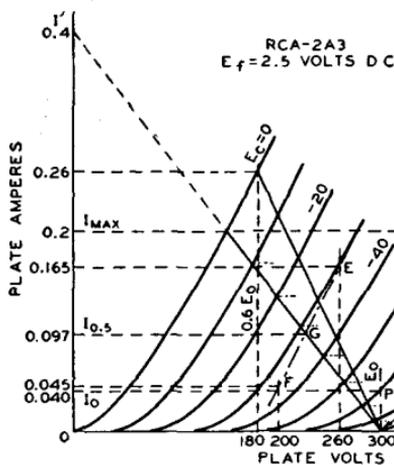
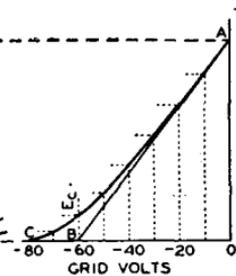

Fig. 24
Fig. 25
In class AB1 push-pull amplifier service using triodes, the operating conditions may be determined graphically by means of the plate family if  $E_0$ , the desired operating plate voltage, is given. In this service, the dynamic load line does not pass through the operating point P as in the case of the single-tube amplifier, but through the point D in Fig. 24. Its position is not affected by the operating grid bias provided the
In general, for any load line through point D, Fig. 24, the plate-to-plate load
**Example:** Fig. 24 illustrates the application of this method to a pair of 2A3's operated at  $E_o=300$  volts. Each tube has a plate-dissipation rating of 15 watts. The method is to erect a vertical line at  $0.6E_o$ , or at 180 volts, which intersects the  $E_c=0$  curve at the point  $I_{max}=0.26$  ampere. Using the simplified formulas, we obtain
The operating bias and the zero-signal plate current may now be found by use of a curve which is derived from the plate family and the load line. Fig. 25 is a curve of instantaneous values of plate current and dc grid-bias voltages taken from Fig. 24. Values of grid bias are read from each of the grid-bias curves of Fig. 24 along the load line and are transferred to Fig. 25 to produce the curved line from A to C. A tangent to this curve, starting at A, is drawn to intersect the grid-voltage abscissa. The point of intersection, B, is the operating grid bias for fixed-bias operation. In the example, the bias is -60 volts. Refer back to the plate family at the operating conditions of plate volts=300 and grid bias= -60 volts; the zero-signal plate current per tube is seen to be 0.04 ampere.
As in the case of the push-pull class A amplifier, the second-harmonic distortion in a class AB1 amplifier using triodes is very small and is largely canceled by virtue of the push-pull connection. Third-harmonic distortion, however, which may be larger than permissible, can be found by means of composite characteristic curves. A complete family of curves can be plotted, but for the present purpose only the one corresponding to a grid bias of one-half the peak grid-voltage swing is needed. In the example, the peak grid voltage per tube is 60 volts, and the half value is 30 volts. The composite curve, since it is nearly a straight line, can be constructed with only two points (see Fig. 24). These two points are obtained from deviations above and below the operating grid and plate voltages.
through these points is the composite curve for a bias of -30 volts, shown as a long-short dash line in Fig. 24. At the intersection of the composite curve and the load line, G, the instantaneous composite plate current at the point of one-half the peak signal swing is determined. This current value, designated  $I_{0.5}$  and the peak plate current,  $I_{max}$ , are used in the following formula to find peak value of the third-harmonic component of the plate current.